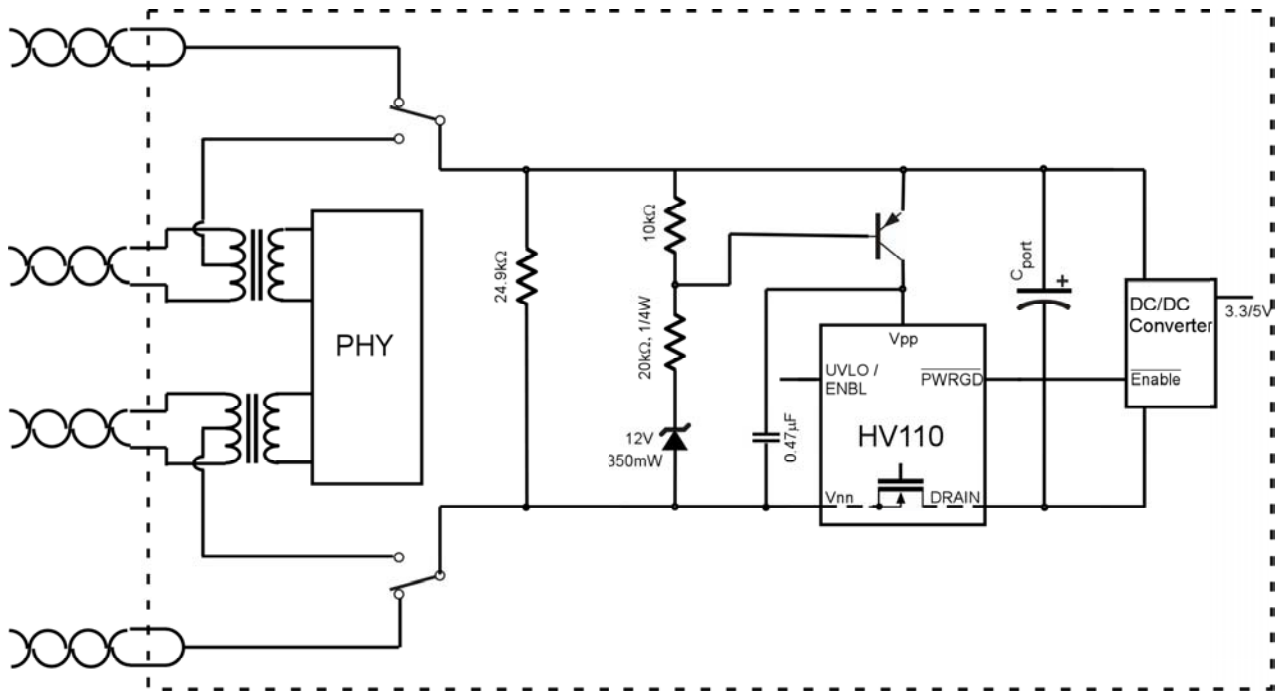

Figure 10. Powering HV110 using a PNP transistor instead of a zener
- ❑ Meets the turn-on and turn-off thresholds for the PD device & has a built-in 8V hysteresis (with PNP transistor as shown in Figure 10).
Because of the zener diode connected to  $V_{PP}$  pin, it will be necessary to modify the internal UVLO thresholds by using two external resistances as shown in Figures 1, 9 and 11, to provide the UVLO turn-off and turn-on voltages to meet the IEEE 802.3af standard. These two resistors perform dual functions, UVLO voltage adjustments and also the Signature Detection function (i.e. represent the 25k impedance). Figure 10 shows a different implementation using a PNP transistor which allows the use of the HV110's internal UV circuit.
Figure 10 shows the modified circuit. In the Discovery stage, the input voltage is less than 10V. This causes the zener to be reverse biased and hence there is no base current to the PNP transistor. Once the input voltage increases beyond 12V, the zener starts conducting, which provides a base current path for the PNP transistor. The transistor goes into the saturation region, essentially pulling  $V_{pp}$  to the rail.